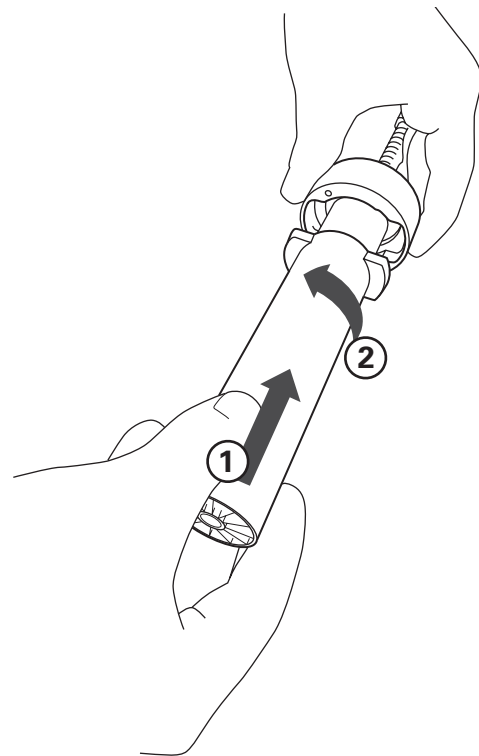

Figure 5: Insert the sleeve and lock into place
5. Slide the sleeve over the cartridge and turn it $\frac{1}{4}$ turn counterclockwise to secure all components (Figure 5).